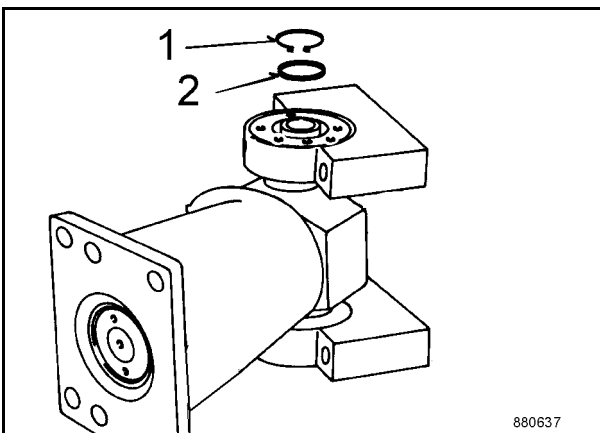

Fig. 2
2. Remove circlip 1 (Fig. 2) and backing discs (2).